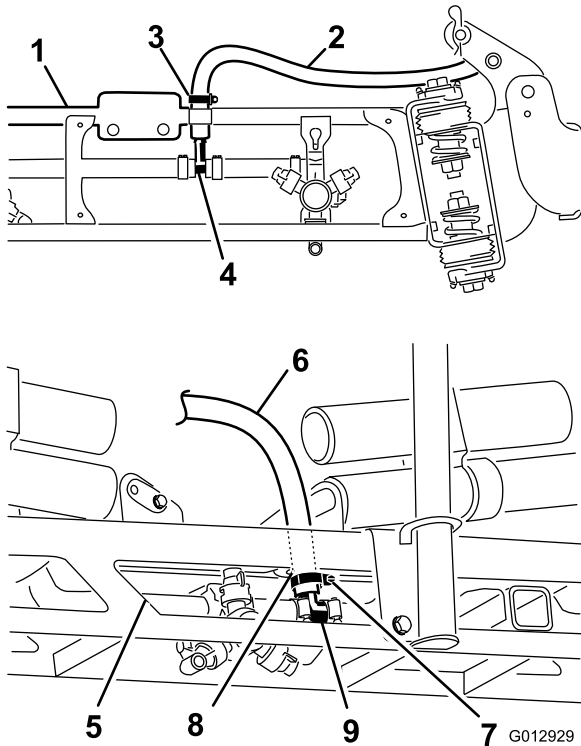

Figure 32
- Use liquid soap to coat the hose barb of the tee connections on both extension booms (Figure 32). Install the boom extension hose over the barb and secure it with a clamp.
- Use liquid soap to coat the hose barb of the center boom tee connection Figure 32.
- Route the center boom hose through the grommetted opening in the center boom assembly. Connect the center boom supply hose to the soaped barb and secure it with a hose clamp Figure 32.